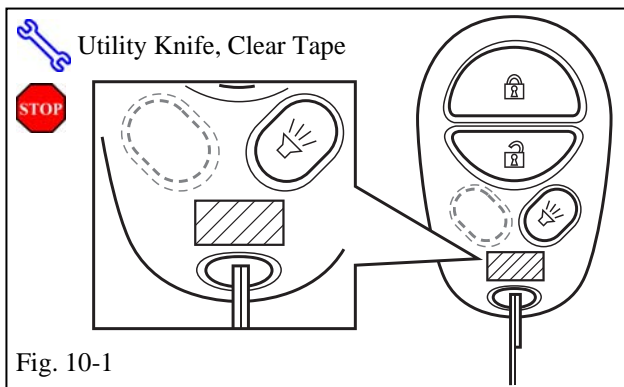

Fig. 10-1
- (1) Use a Utility Knife, to cut a slit in each bag.
- (b) Using VDC approved cleaner and Cleaning Method, clean the area indicated on the Remote Controls. (Fig. 10-1)
- (c) Attach the Key Label to the Remote Controls as shown. (Fig. 10-1)
- (1) Use a piece of Clean Adhesive Tape to lift the labels off their protective backing.